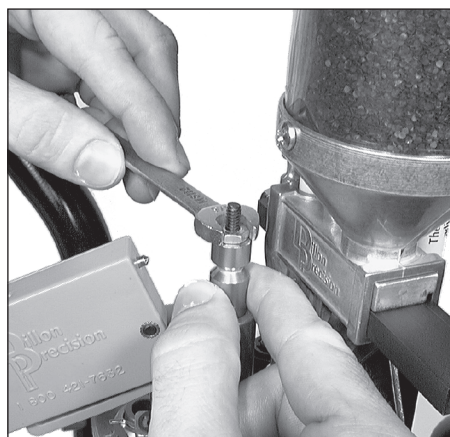

FIG 143
7. Snug the lock nut with a 3/8" wrench FIG 143.